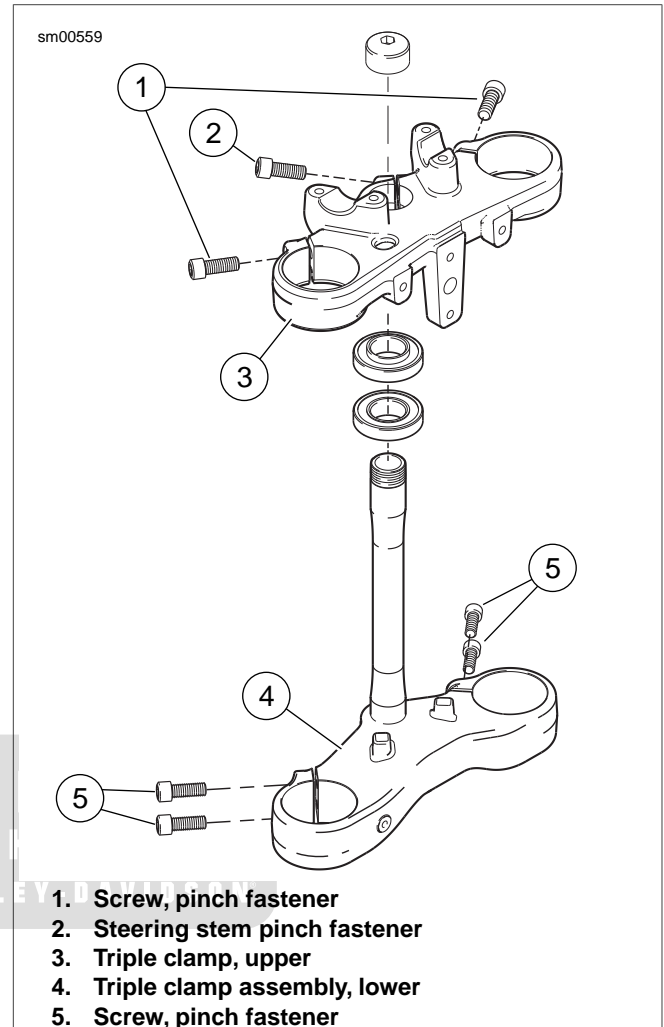

Figure 2-89. Upper and Lower Fork Clamp Assembly (Typical)
4. See Figure 2-89. Loosen upper and lower fork clamp pinch fasteners (1, 5).
6. See Figure 2-89. Remove fork from lower fork clamp (4).